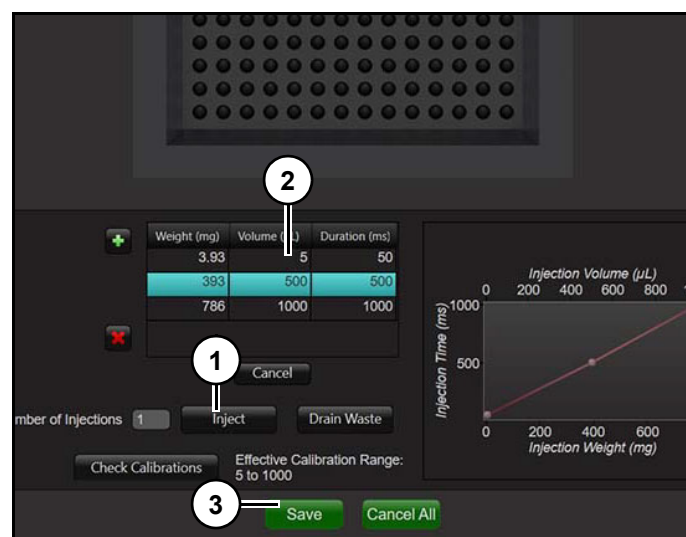

Figure 16
- Click "Inject" (1) (Figure 16). Instrument will open valve for 1200 ms, injecting liquid into collection vial.
- Enter measured volume into "Injection Volume (μL)" (2) (Figure 16).
- Click "Save" (3) (Figure 16). To calibrate another point, highlight appropriate line with a mouse click.